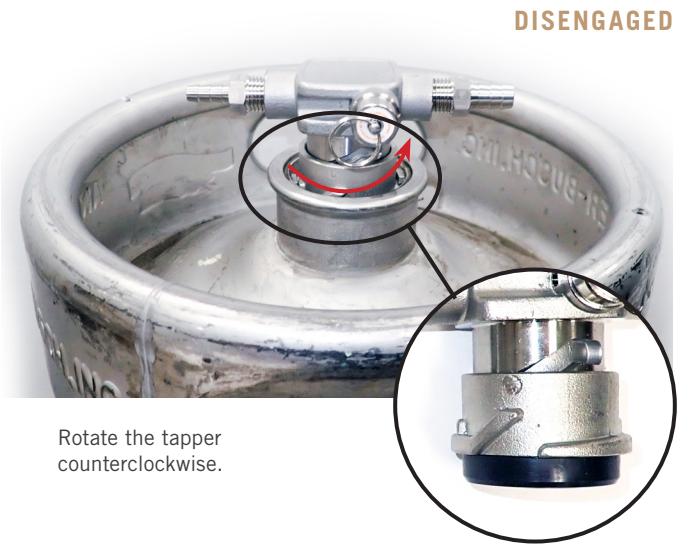

Fig. 9. Always strap the CO2 cylinder into the cabinet.
- Position the CO2 cylinder inside the cabinet. Then, fasten the safety strap around the cylinder. See fig. 9.